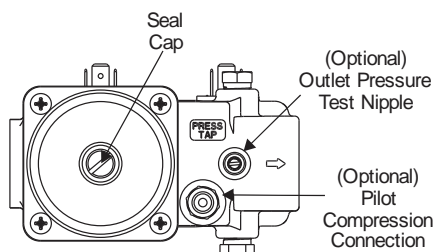

Figure 4: Underside of the Valve with Direct-Acting Regulator
9. Connect the pilot tubing (when necessary) to the threaded pilot connection on the underside of the valve body (see Figure 4) and run the tube to the pilot burner within the appliance. Connect the pilot tube to the valve with an optional compression fitting.
10. If you desire to measure the outlet pressure, use the (optional) bottom cast pressure test fitting (see Figure 4) or use the (optional) Y99AX pressure test fitting (see Figure 3) located on the side of the valve using an approved pipe joint compound on the male threads and replace the marked pressure tap plug, which is optional on the inlet or outlet of the valve body. Screw the fitting into threaded port of the valve, which replaces the pressure tap plug.
13. If installing a valve with a pressure regulator, set the valve to the desired outlet pressure. See the Regulator Adjustment section for specific adjustment procedures. After setting the valve outlet pressure, ensure that the leak-limiting seal cap is replaced (see Figure 4).
The GM-753_ model has a bottom adjust pressure regulator. To adjust the regulator, remove the leak-limiting seal cap to expose the adjusting screw (see Figure 4). Turn the adjusting screw to determine the compression of the regulator spring against the regulator diaphragm.
To adjust the outlet pressure, remove the leak-limiting seal cap to expose the adjusting screw (see Figure 4). Turn the screw (using a suitable flat-blade screwdriver) in a clockwise direction to increase or in a counterclockwise direction to decrease the outlet pressure of the valve.